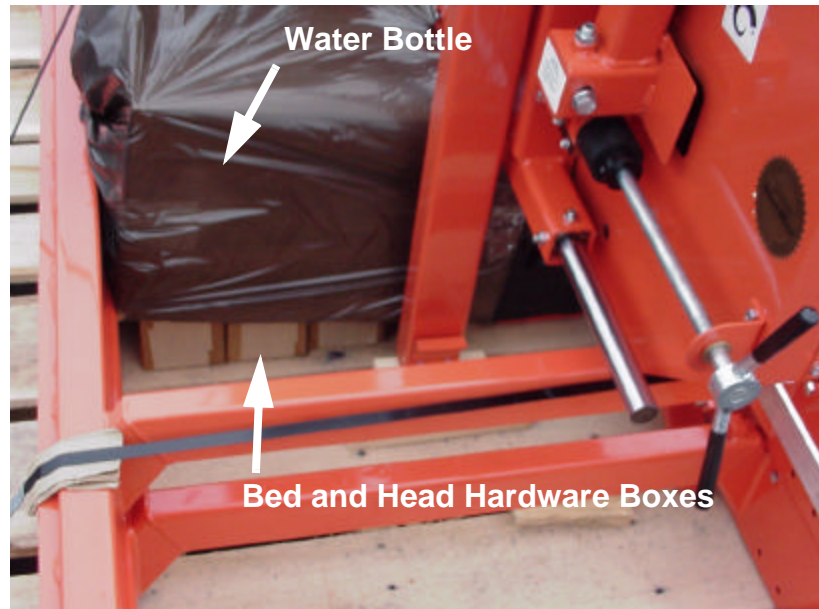

FIGURE 3
3. Place bed and head hardware boxes beside the battery box. See Figure 3.
See Figure 3.